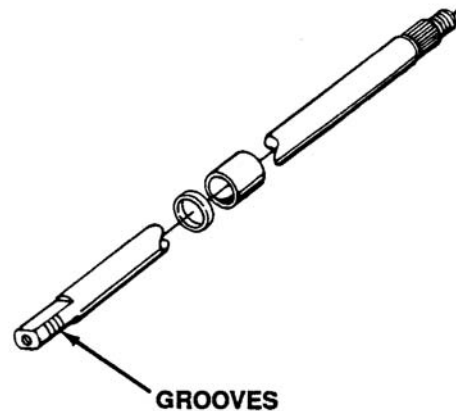

Figure 6-5. Axle Identification
5. For 1991 production, grooves were put on or left off the axle ends for axle and transaxle identification. See Figure 6-5.